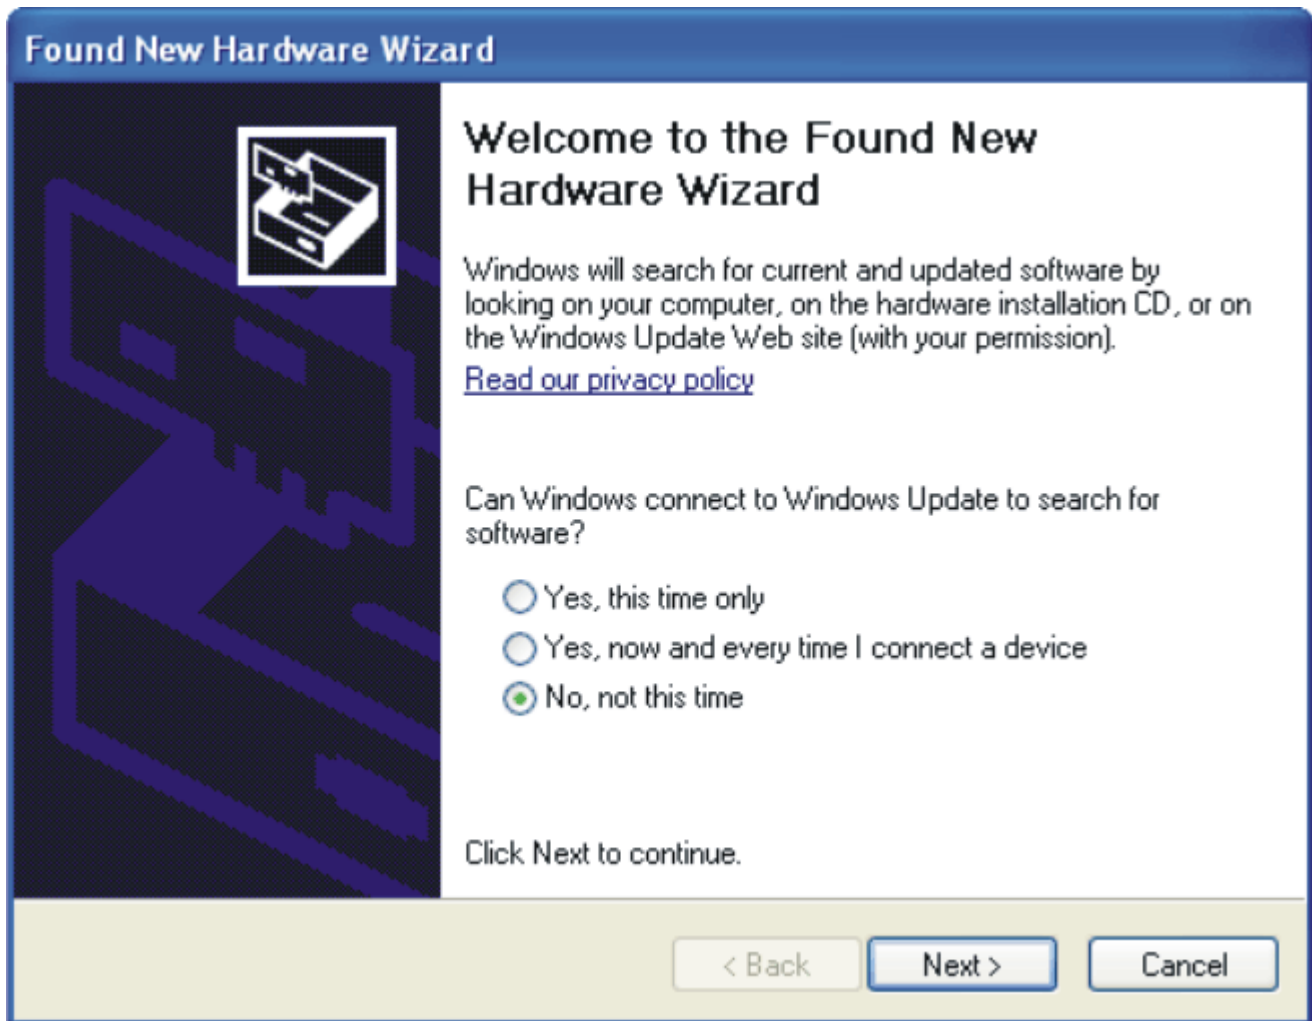

Figure 8. NI-VISA Driver Installation
2. The computer should recognize new hardware and begin installing the drivers for the hardware. Figure 8 through Figure 11 are provided for reference to show the installation steps.
- For the first screen, Figure 8, it is not necessary to search for the software; it has already been installed to your PC.